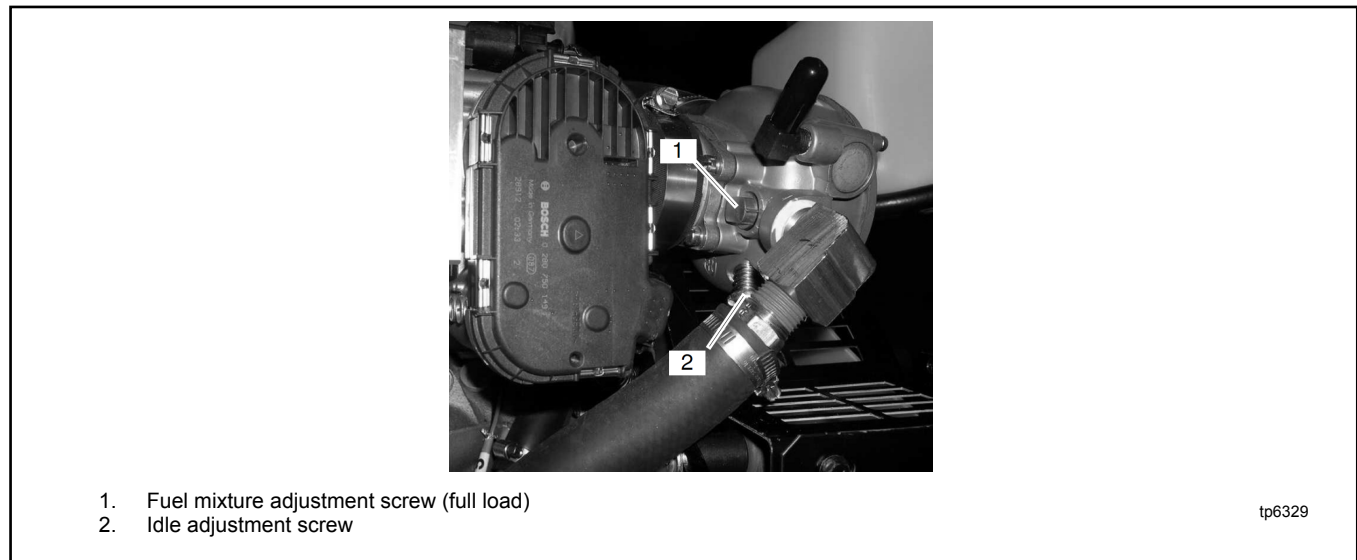

Figure 7 Fuel Mixture Adjustment Screw Location
10/13ERG and 15/30RES generator sets with GM 1.6 L engine. See Figure 7.
5. Adjust the fuel mixture adjustment screw (on the mixer, see Figure 7) to obtain a full load oxygen sensor reading in the range specified in Figure 2.
7. Adjust the idle screw (see Figure 7) to obtain a no-load oxygen sensor reading in the range specified in Figure 2.